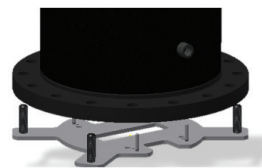

Figure 66
**5.0.26)** Lift the insertion housing off the alignment gauge plate and carefully place on the temporary gate valve (see Figure 66).